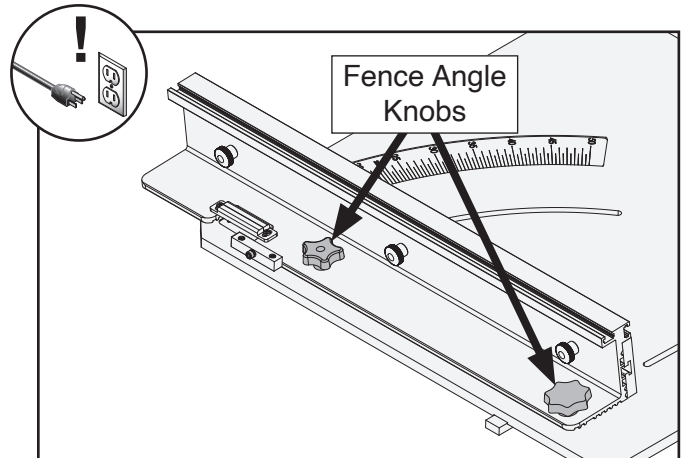

Figure 16. Location of fence angle knobs.
2. Loosen (2) fence angle knobs (see **Figure 16**).